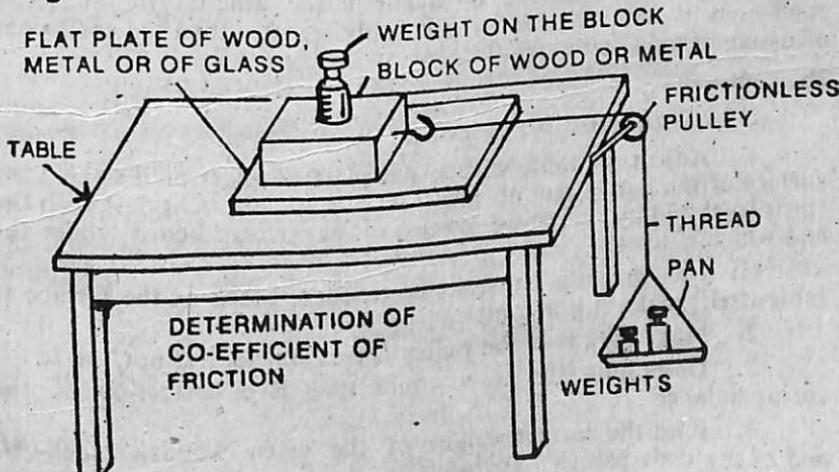

Fig. 14.1.
5. Connect the hook of the wooden block with the help of a thread to the scale pan. Pass the thread over the frictionless pulley as shown in Fig. 14.1 so that the scale pan hangs freely in the air. The portion of the thread between the hook and the pulley may be horizontal.